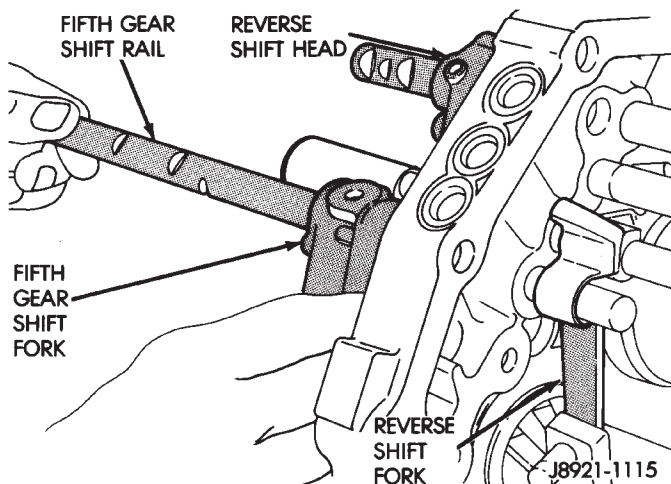

Fig. 107 Fifth Gear Shift Rail Installation
(11) Install fifth gear shift rail (Fig. 107). Slide rail through fork, shift head, intermediate plate and reverse shift fork. Be sure interlock ball is not displaced during installation.